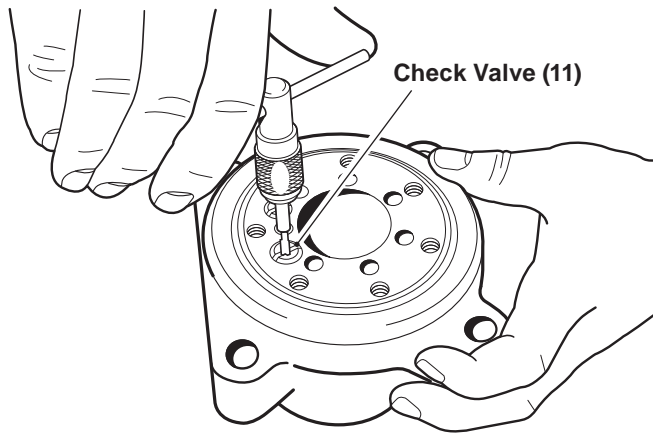

Figure 15, Check Valves
1. Remove castellated nut (1), woodruff key (6), plastic plugs (8), retaining ring (2), seven screws (22), seven washers (23), end cover (19), gearwheel set (17) with O-rings (16, 18), cardan shaft (15), distributor plate (14), O-ring (13), output shaft (7) needle bearing (12), And, from the output shaft — remove ball bearing (3), washer (4), and output shaft seal (5). See pages 4 - 9.
2. Remove the check valves (11) with a ground 3.5mm screw tap. See figure 15. The check valves are pressed in and can be removed by pulling on the tap.